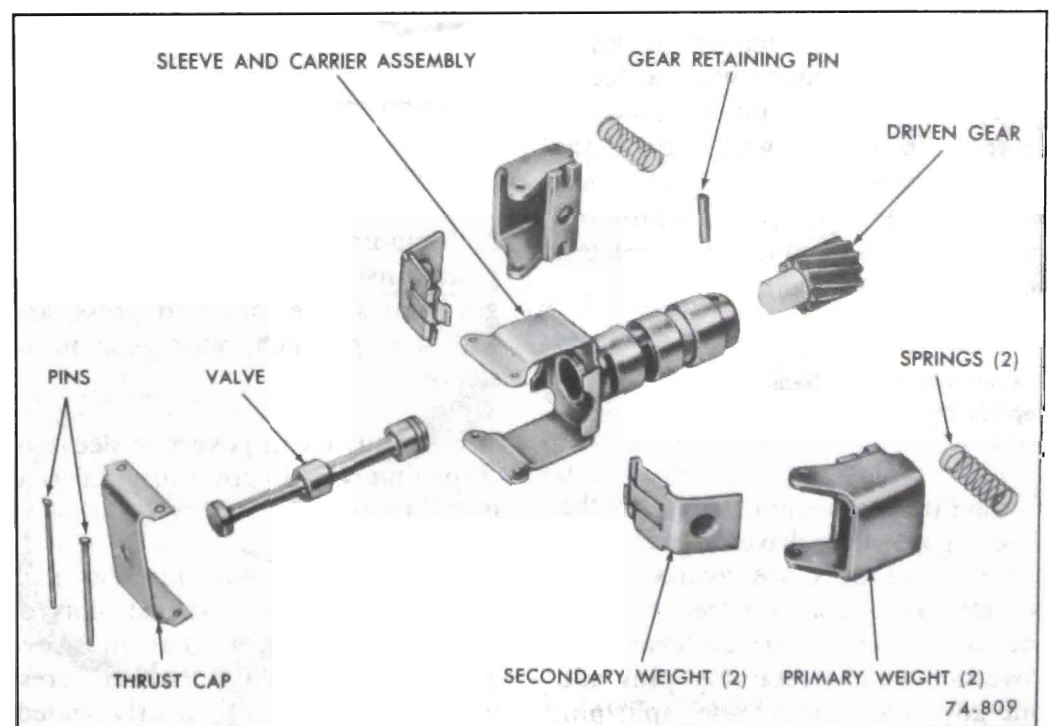

Figure 76-600
a. Disassembly (See Figure 76-600)